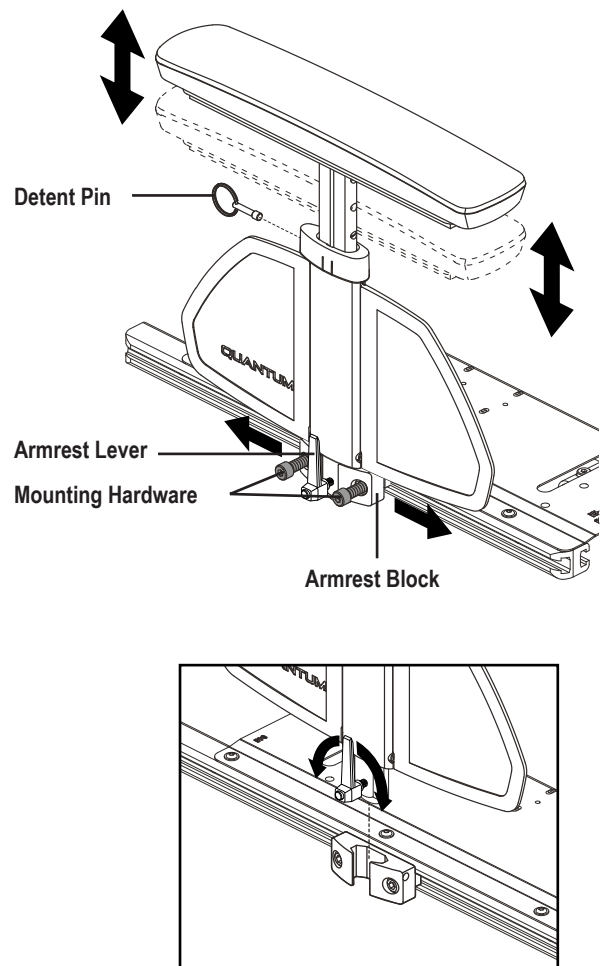

Figure 6. Removal/Installation of TB-Flex Quick-Release Armrests
2. Lift up the armrest assembly. **See figure 6.**
1. Place the armrest assembly into the armrest block. **See figure 6.**
1. If present, remove the optional detent pin. **See figure 6.**